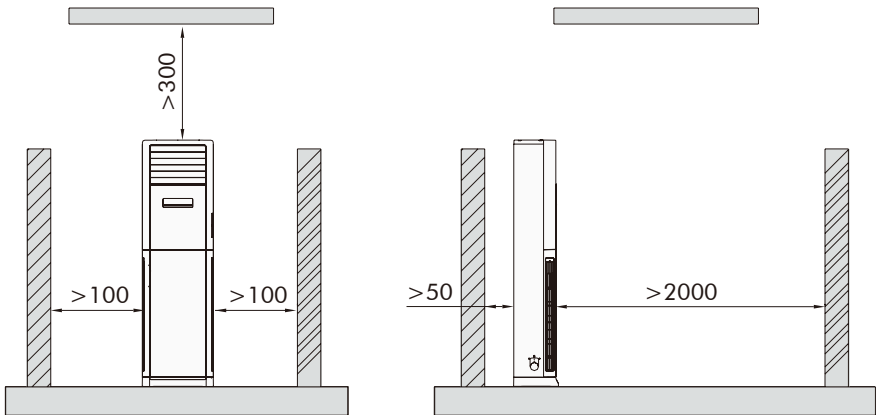

Fig.4
- ① - Metal clamp (accessory)
- ② - Insulation sponge (accessory)
- (3) When drain hose requires extension, obtain an extension hose commercially available.
- (4) After connecting the local drain hose, tape the slits of the heat insulation tube.
- (5) Connect the drain hose to the local drain pipe. Position the inter connecting wire in the same direction as the piping.
- (6) Install the Baffle after installation of connection pipe and drainage pipe according to Fig.4